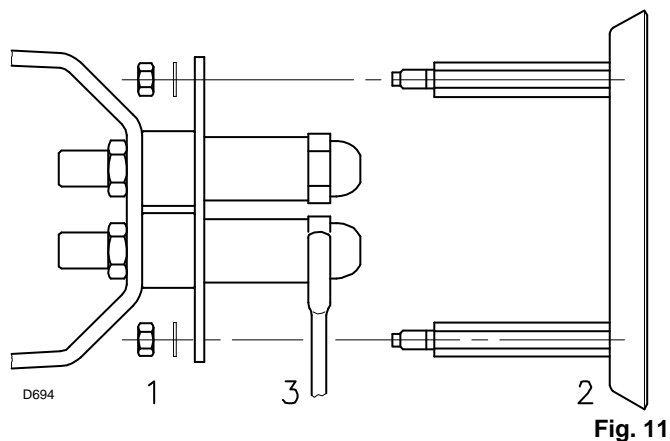

Fig. 11
- Remove the nuts 1) (Fig. 11) and the disk 2).
- Use spanner 3) (Fig. 11) to change the nozzles.